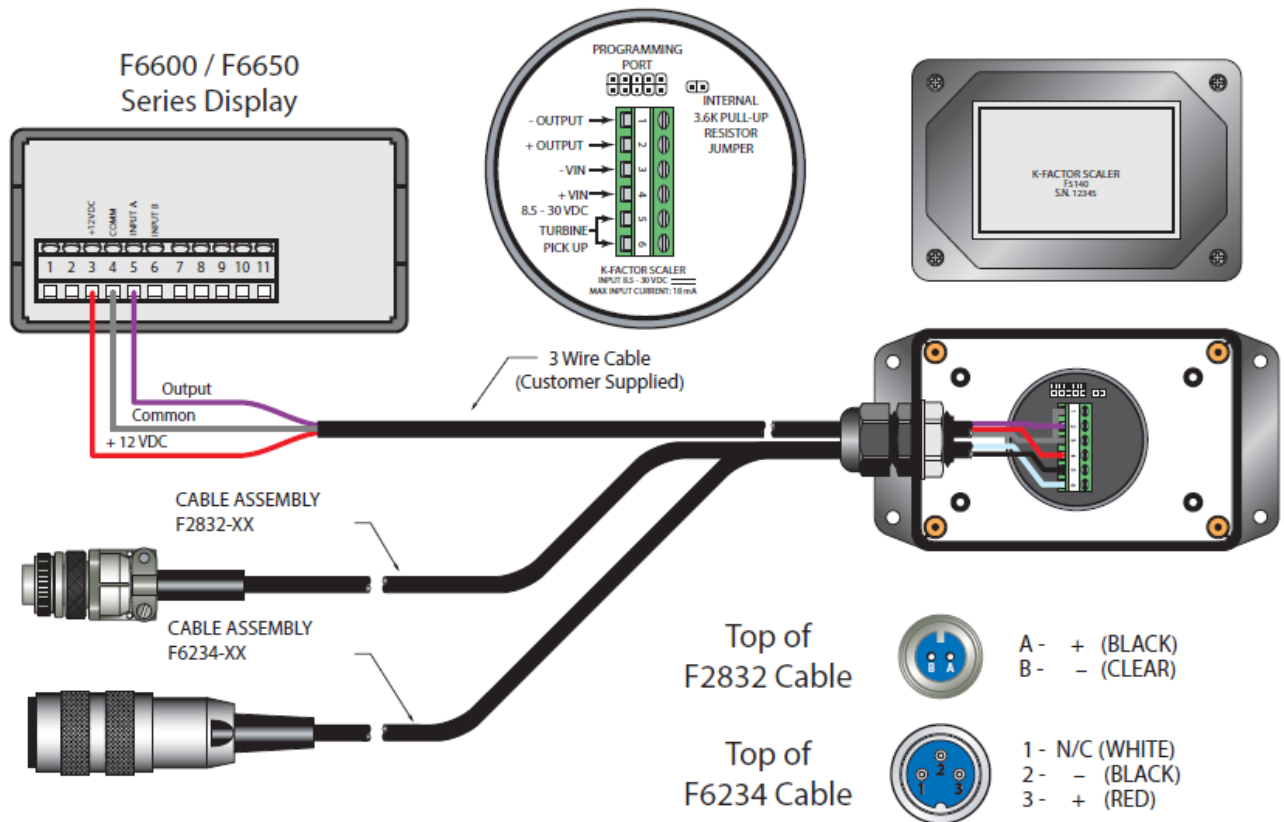

Figure 2: Flo-tech frequency output wiring using F5140 K-factor scaler
2. Connect the BLACK wire from the F2832 or the RED wire from the F6234 cable to terminal 5 of the F5140 K-Factor Scaler. Connect the CLEAR wire from the F2832 or the BLACK wire from the F6234 cable to terminal 6 of the F5140 K-Factor Scaler. See Figure 2.